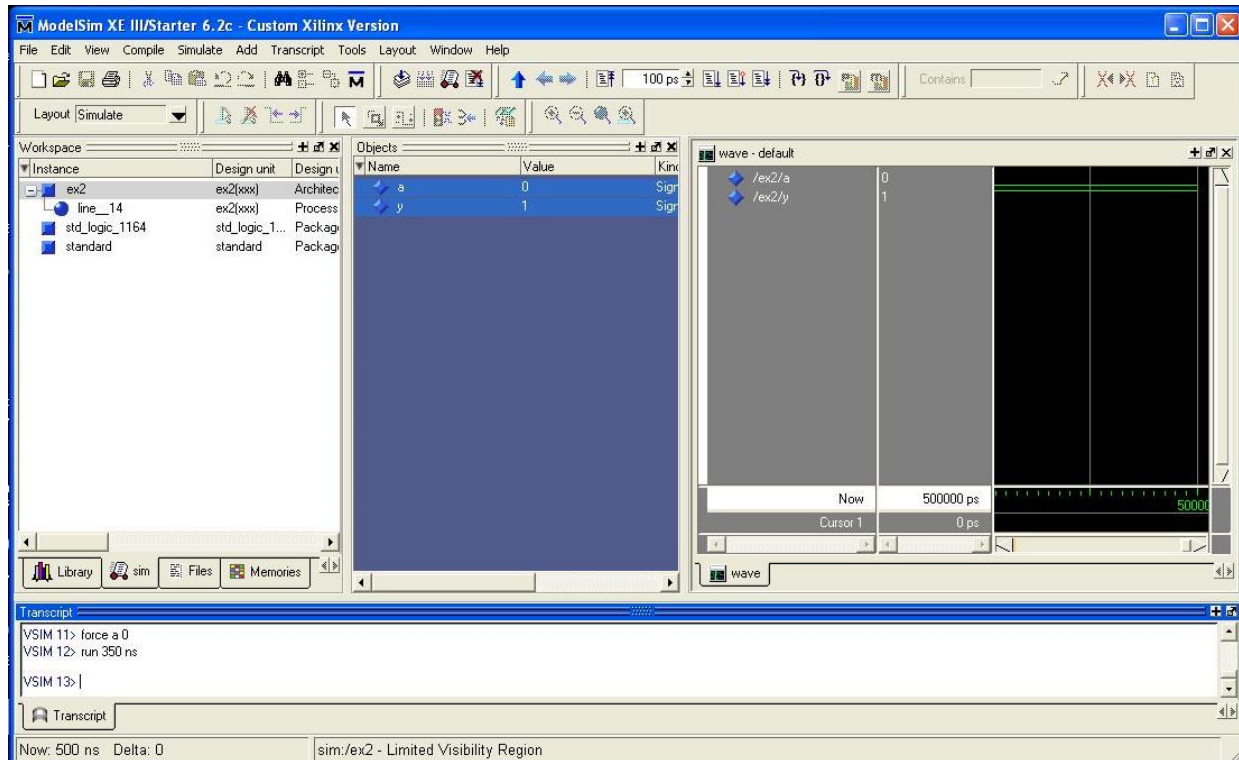

Figure 6: Waveform Window Docked Inside ModelSim's GUI
8. We shall now investigate the Waveform window. The waveform Window is tiled inside ModelSim's GUI, and is now only showing the end of the simulation, as in figure 6: